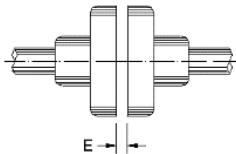

Figure4.14: Axial clearance of the coupling (E)
Align the shaft ends carefully, and, whenever possible, use flexible coupling, leaving a minimum clearance (E) of 3 mm between the couplings, as shown in Figure4.14.